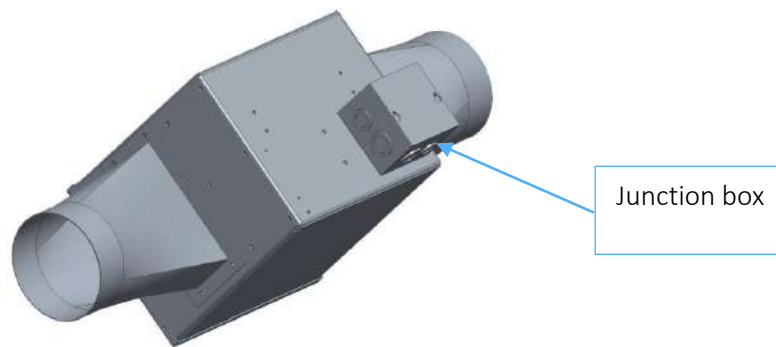

Fig. 39 Rear view of the projector 74-00013-01
- A. Open the lid of the junction box (Figure 39).